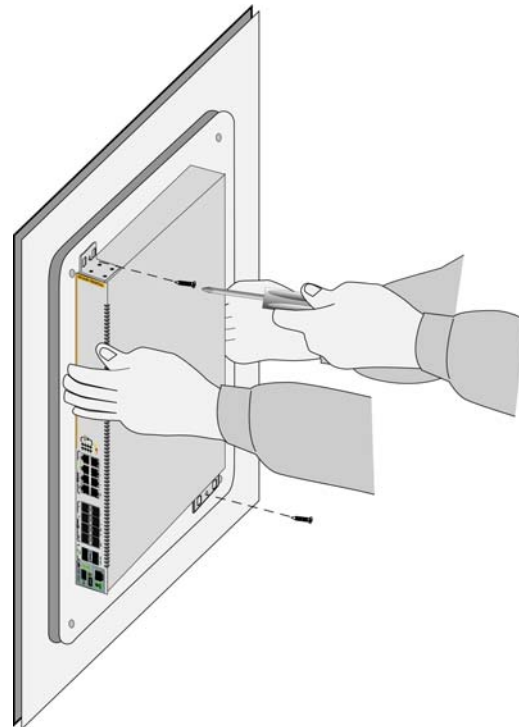

Figure 45. Securing the Switch to the Plywood Base
4. After attaching the brackets, have another person hold the switch on the plywood base on the wall while you secure it with the M4x32.3mm screws included with the switch. Refer to Figure 45 on page 86.